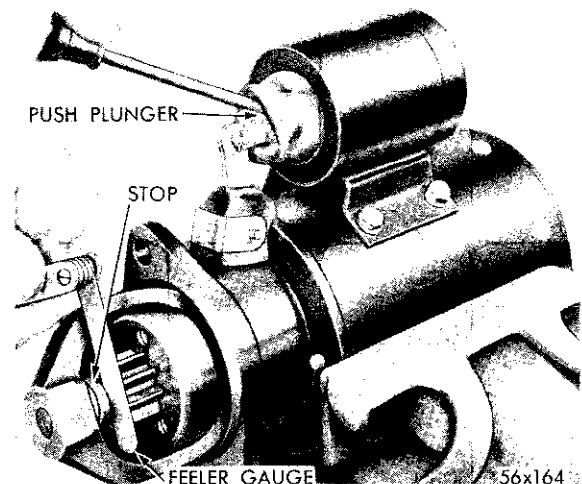

Fig. 5—Adjusting Starter Drive Pinion Clearance
15. ADJUSTING STARTER DRIVE GEAR (PINION) CLEARANCE (FIG. 5)
Place starter assembly in vise equipped with soft jaws and tighten vise sufficiently to hold starter. Push in on solenoid plunger link adjusting bolt (NOT THE FORK LEVER) until plunger bottoms. Measure clearance between end of pinion and pin stop with plunger seated and pinion pushed toward commutator end (Fig. 5). The clearance should be $\frac{3}{32}$ inch, plus $\frac{1}{32}$ inch or minus $\frac{1}{64}$ inch. Adjust for proper clearance by screwing link in or out of plunger as required. Bend cotter key and